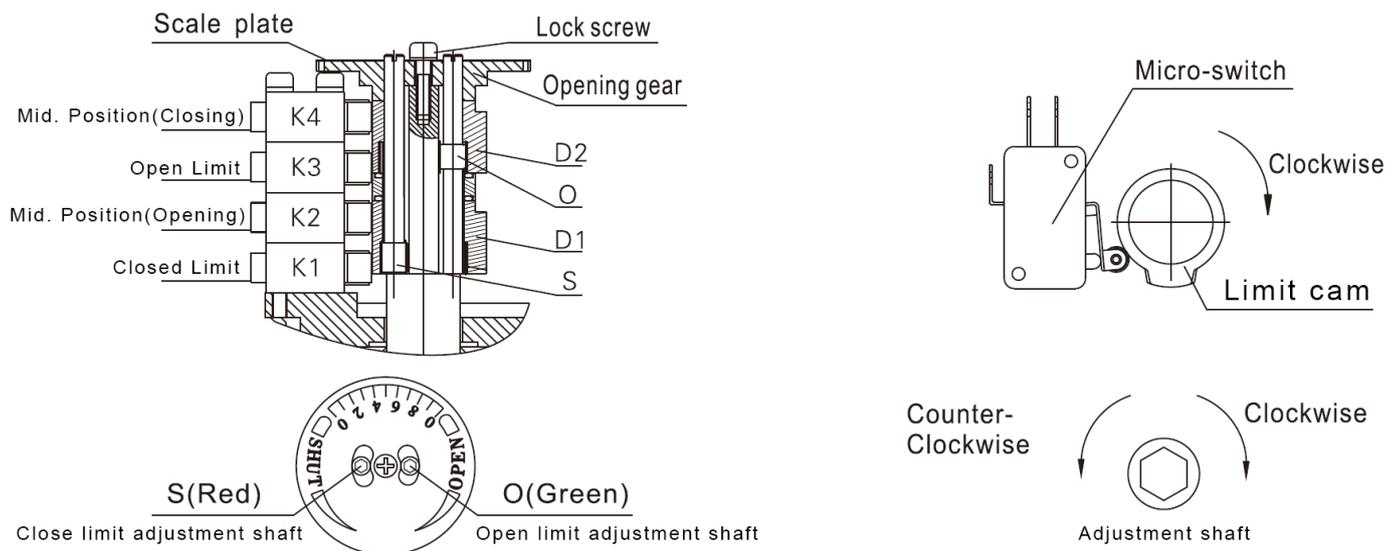

Fig. 5
1. Adjustment of Electric Limit for Micro-Regulation Type (Fig. 5)